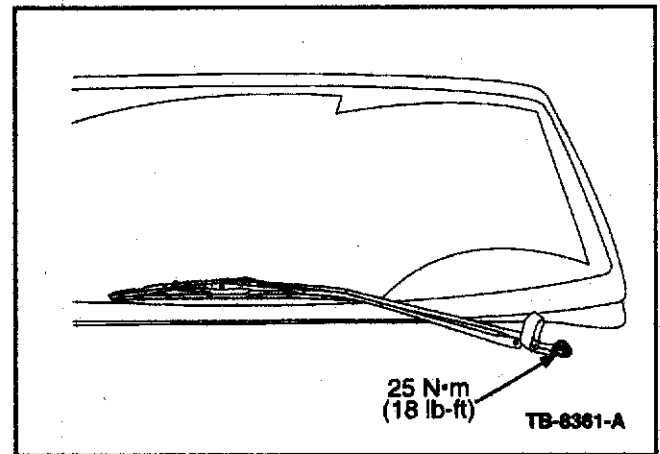

Figure 16 - Article 06-14-10
21. Install wiper pivot arms. (Figure 16)